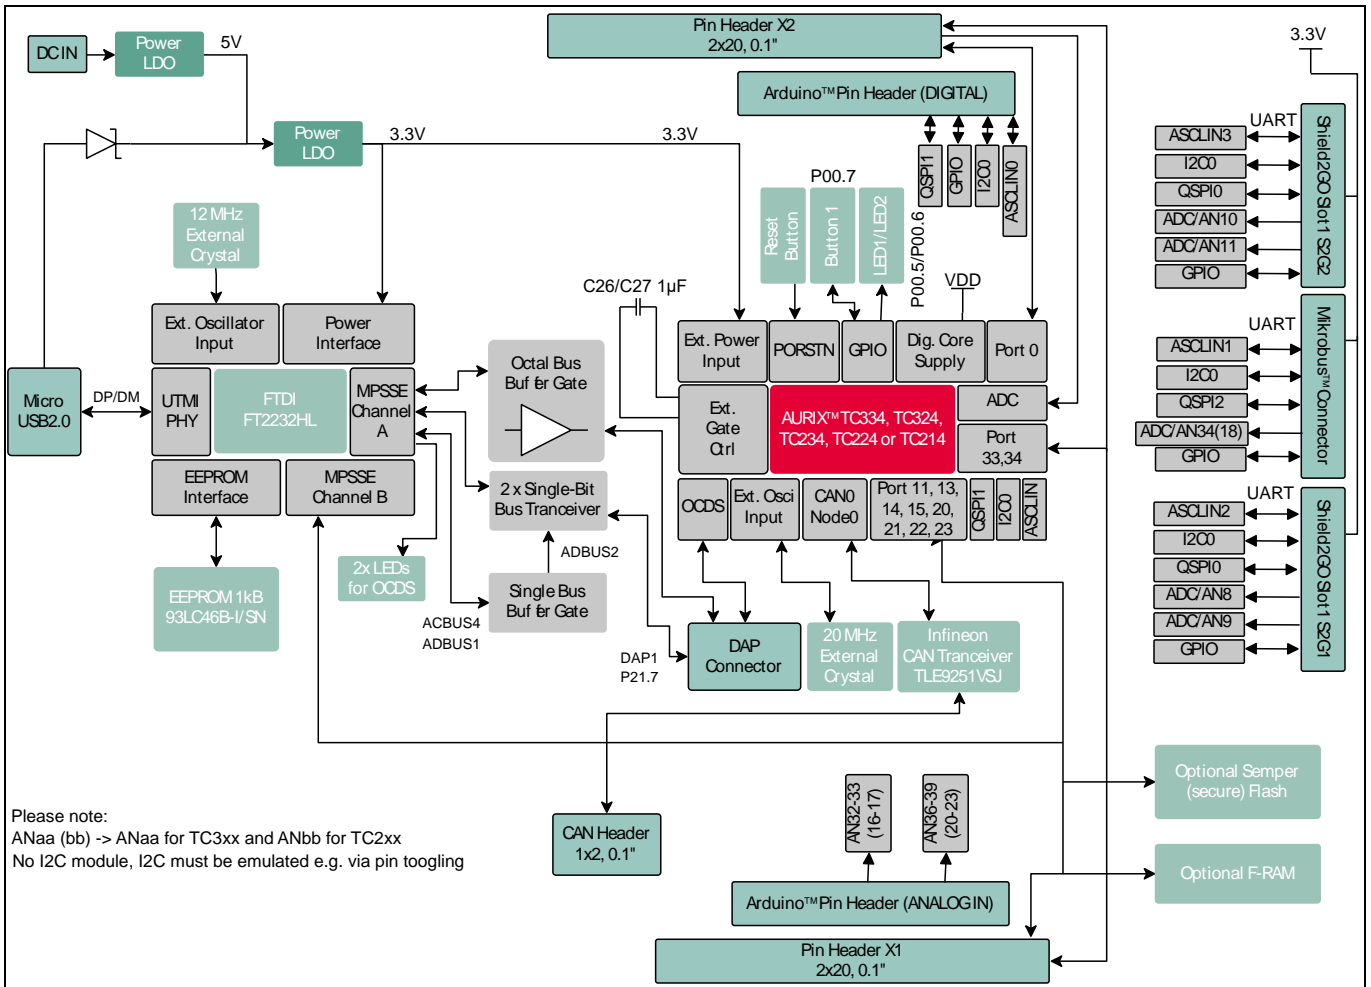

Figure 1 Block Diagram of the AURIX™ TCxx4 lite Kit
- The block diagram in Figure 1 shows the main components of the **AURIX™ TCxx4 lite Kit** and their interconnections.